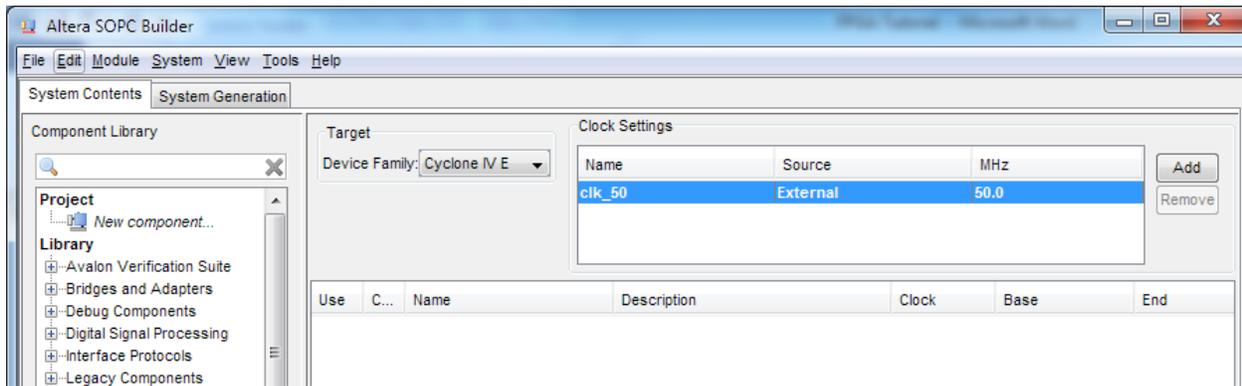

Figure 1-13 Rename Clock Name
7. Click the **Name** of the **Clock Settings** table, rename `clk_0` to `clk_50`. Press Enter to complete the update. See Figure 1-13.